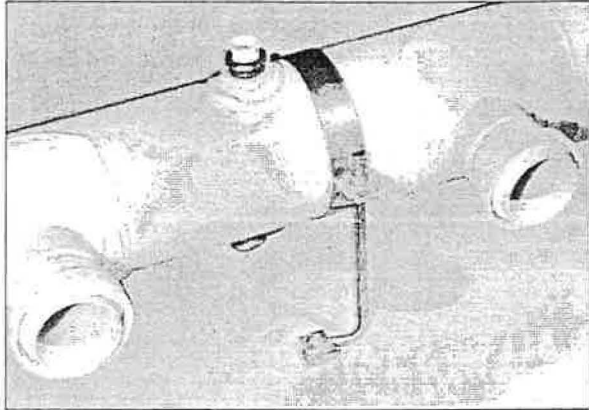

Figure 30A
- The sump for systems using in-line manifolds is built into the manifold pipe as shown in Figure 30A.